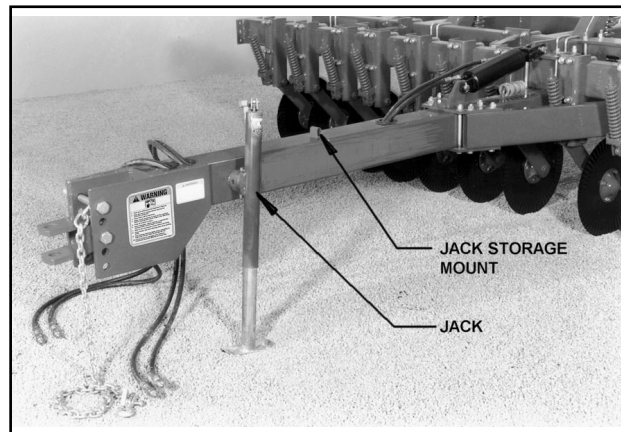

Figure 4-9 Implement Hitch
- b. Remove jack and pin in storage position on top of hitch tube (See Figure 4-9).